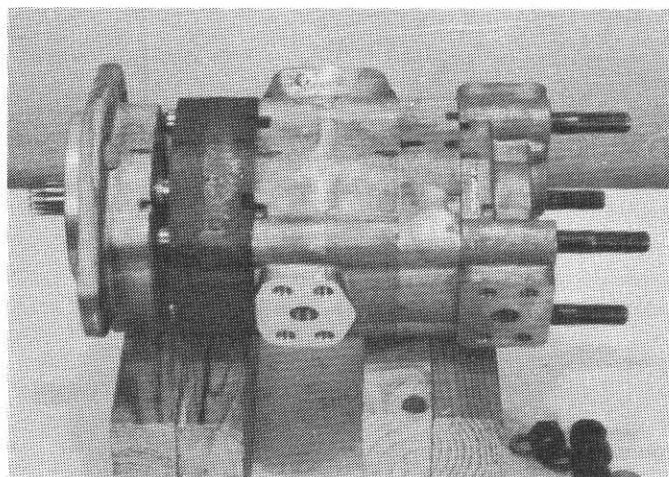

FIG. 1.
4. This next step applies to removal of the one-piece flange plate as well as to the flange plate used with mounting adapters. Loosen and remove the nuts and washers from the four studs. Loosen the studs from the flange plate, but leave them in place in the pump. It may be necessary to tap the studs while pulling on the flange plate to slide it up the shaft far enough to insert vise-grip pliers between the flange plate and the gear plate in order to grasp and turn the studs. Use care and don't mar the finished surfaces if you have to resort to this procedure. (Fig. 1)